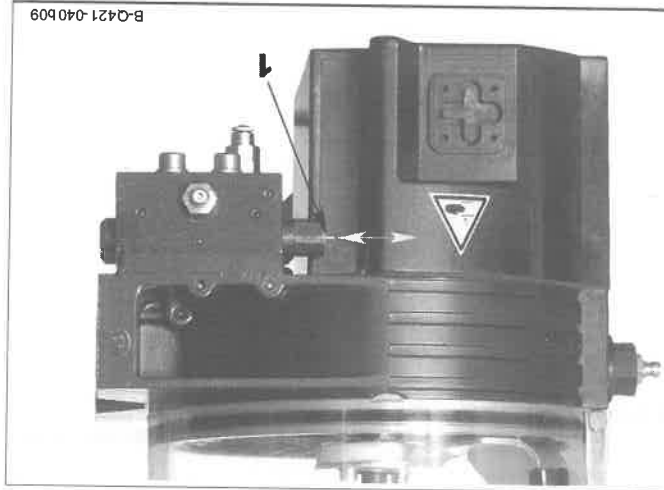

Fig. 9-3 Movement of the indicator pin during the lubricating time
- blockage in the downstream system (Fig. 9-3)